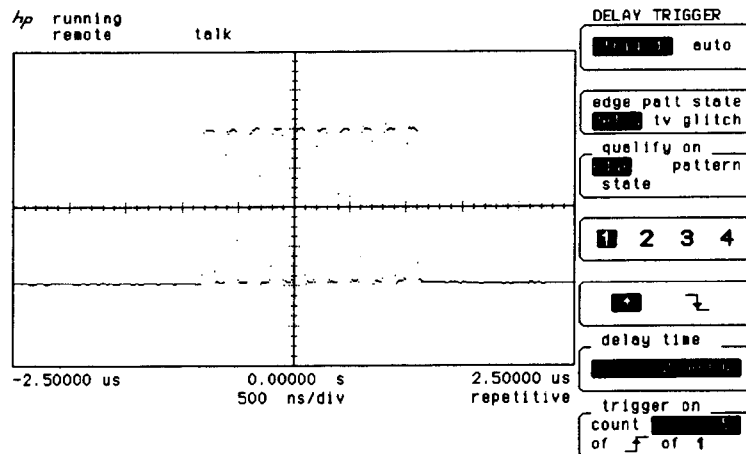

Figure 6-16. Ten Burst Pulse Triggered on Pulse 5
- Return to the trigger menu and set **trigger on count** to **5**. This tells the oscilloscope to trigger on the 5th rising edge of the next burst (see Figure 6-16).